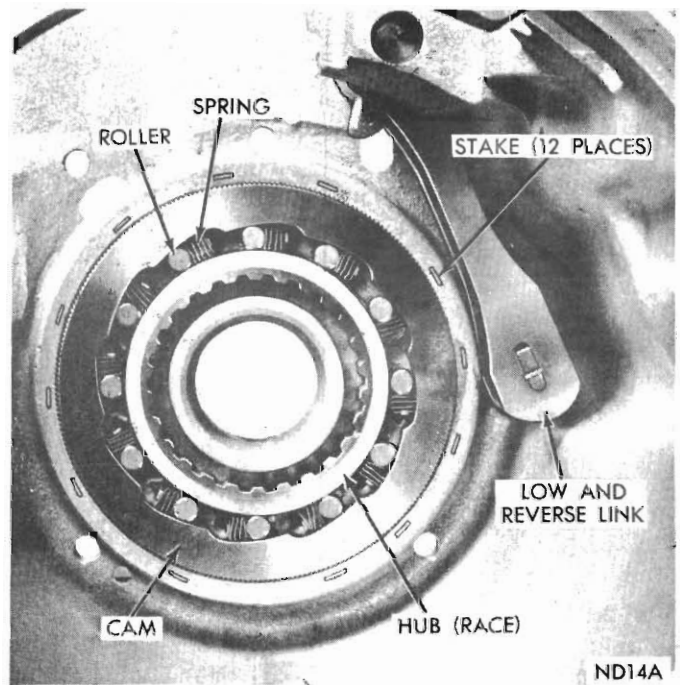

Fig. 93 - Overrunning clutch, low and reverse band link
(7) Remove cam installing tool. Install and tighten support retaining screws to 140 lbs. inch. Stake the case around cam in twelve places with a blunt chisel (Fig. 93).
(1) With transmission case in an upright position, insert clutch hub inside the cam. Install over-running clutch rollers and springs exactly as shown in *Fig. 93*.
A-727: Be sure long link and anchor assembly is installed, as shown in *Fig. 93*, to provide running clearance for the low and reverse drum.